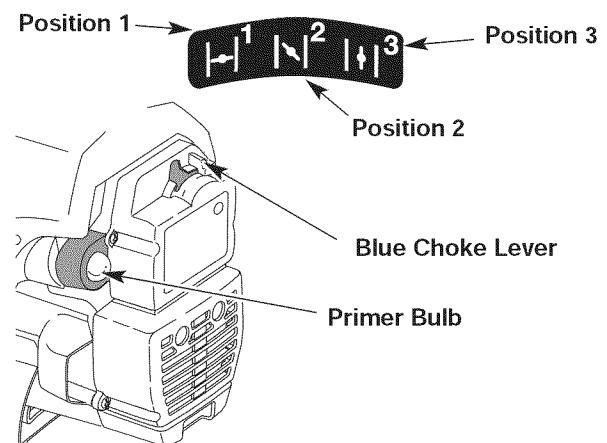

Fig. 10
- Fully press and release the primer bulb 10 times, slowly. Some amount of **fuel should be visible in the primer bulb** and fuel lines (Fig. 10). If you can't see fuel in the bulb, press and release the bulb as many times as it takes before you can see fuel in it.
- Place the blue choke lever in Position 1 (Fig. 10).